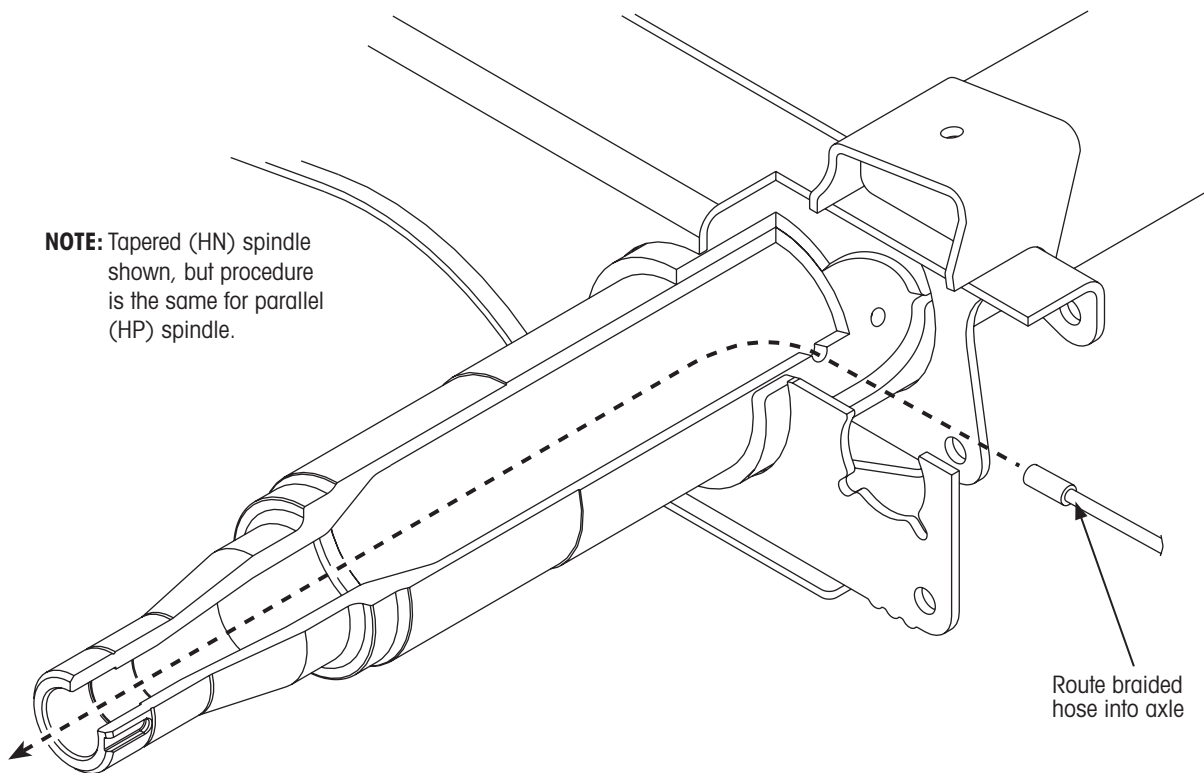

Figure 8: Routing axle hose
1. On the end of the axle tube with two ¼ inch holes in the wrap window (on **INTRAAX®** and **VANTRAAX®** suspensions), **route** the small end of the metal braided hose into the hole closest to the spindle end (Figure 8). On Hendrickson **TRLAXLE®** Trailer Axles, **route** the small end of the metal braided hose into the hole closest to the spindle.